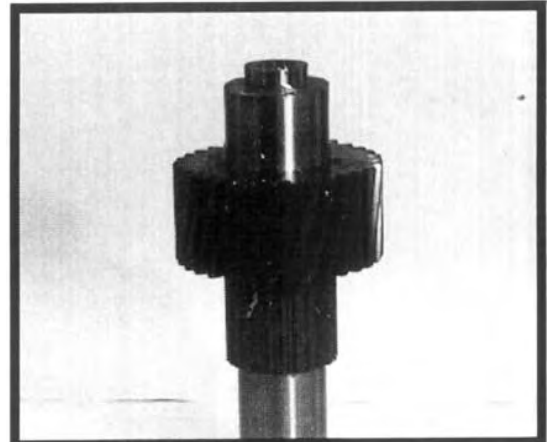

Figure 6.10
4. Heat and install the rear bearing cone assembly against the gear. See Figure 6.10.